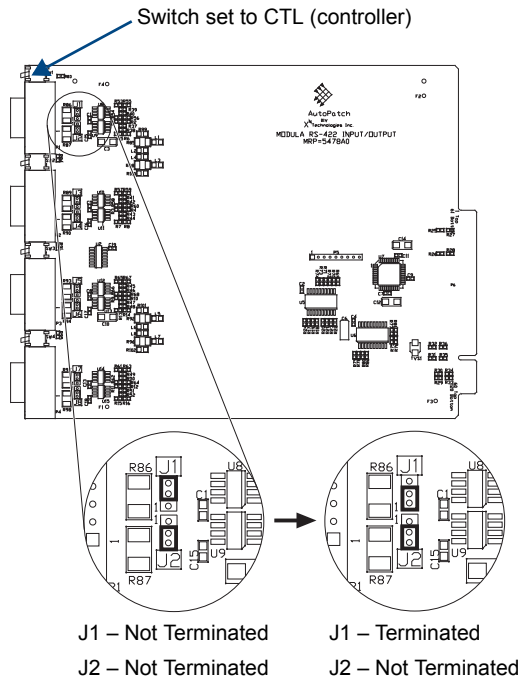

FIG. 99 Example: Terminate J1 jumper (cover Pins 1 & 2) when first connector is set to CTL
Typically jumper pins for a connector should be set for termination when high data rates or long cable lines are used. Each connector has two 100-ohm, 3-pin jumpers. The jumper needing termination depends on the toggle switch setting (see the table below). The board must be removed to access the jumpers (for instructions on removing and replacing a board, see “Appendix D – Adding or Replacing Boards” on page 171). The factory default setting is “not terminated,” as indicated in FIG. 99 on the left (J1 and J2 jumpers are each on Pins 2 and 3, the unnumbered pins).
1. Move the jumper to cover Pin 1 (numbered) and Pin 2, as indicated in FIG. 99 on the right.